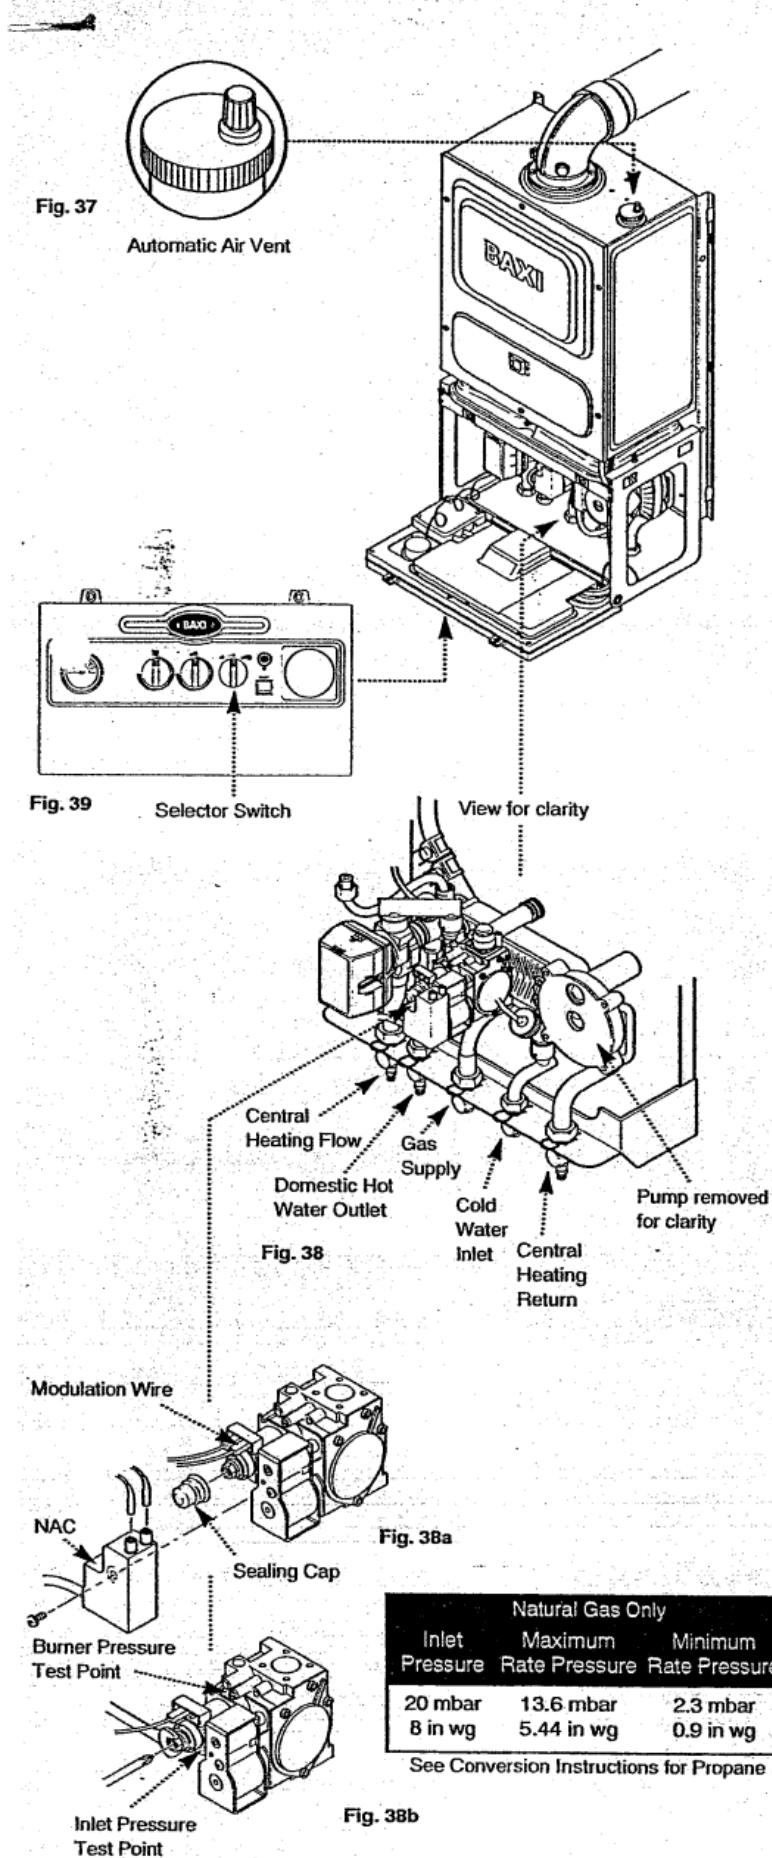

Fig. 37, 38, 38a, 38b, 39
5. Open the automatic air vent (Fig. 37). To help purge the primary circuit turn the pump on & off several times by using the On-Off selector switch (Fig. 39).